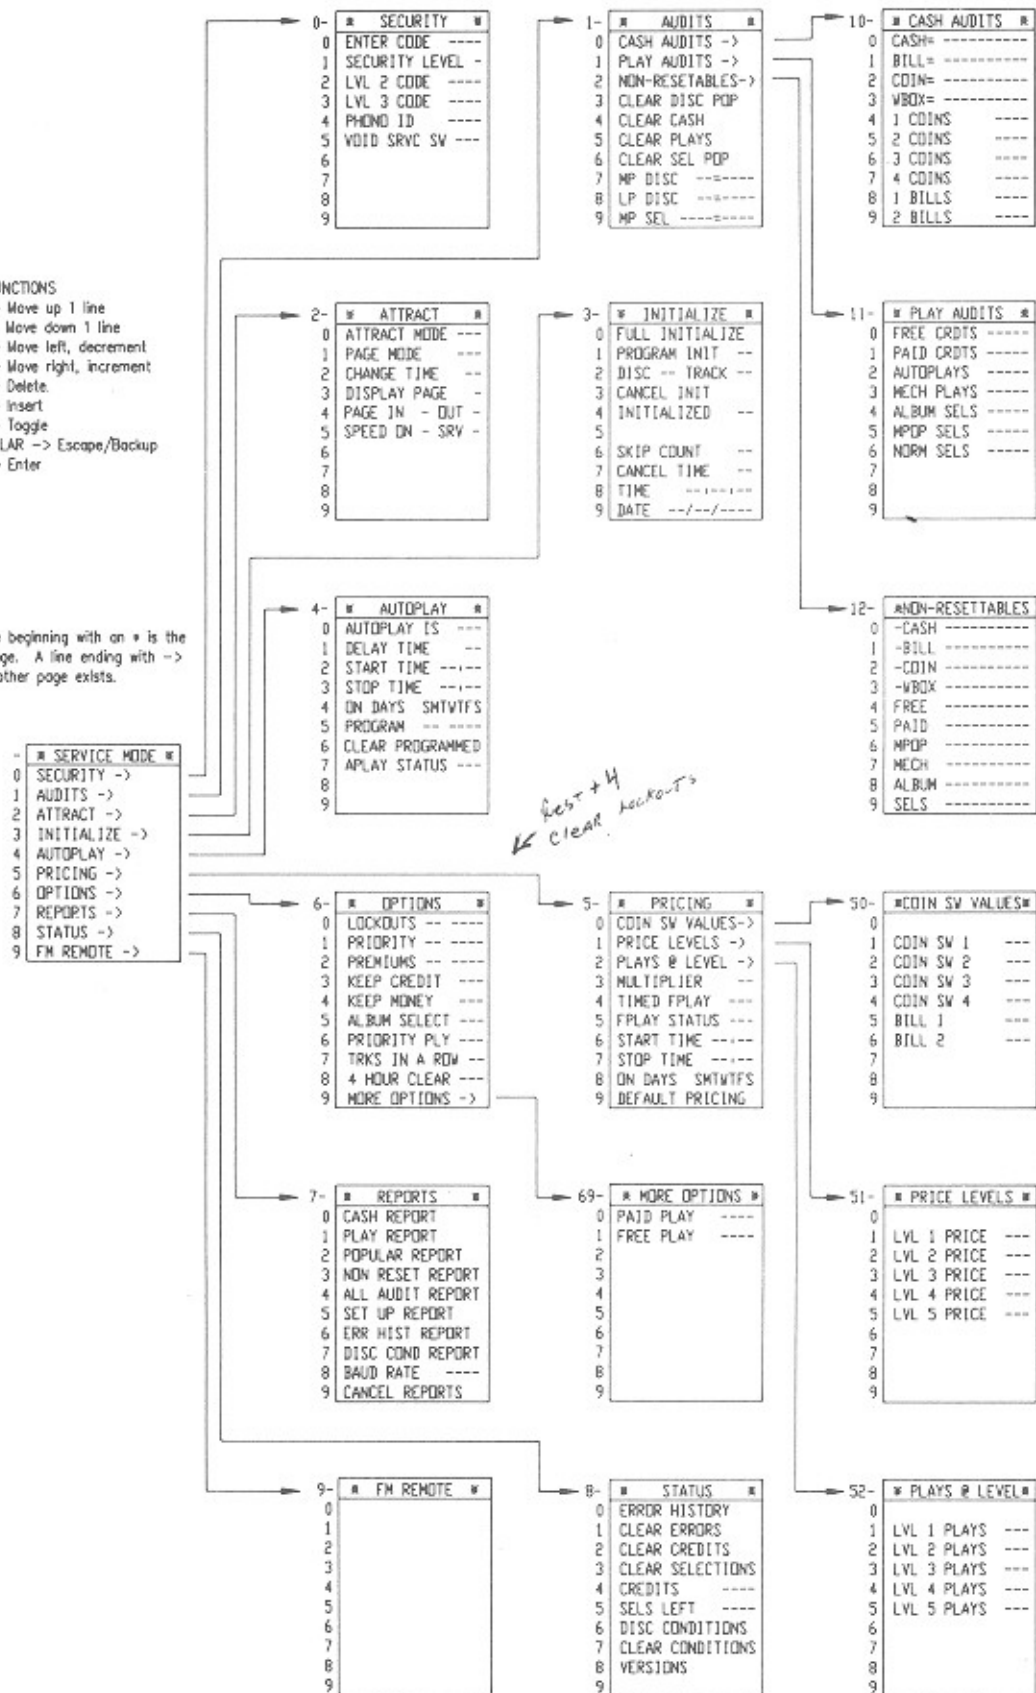

Figure 2-7. Service Mode Map
When you have found the option that you want, press the POPULAR button. If the option that you have selected requires that you enter a value, press the appropriate digits on the selector keyboard and then press POPULAR to complete the transaction. If you make a mistake, press and hold the RESET button press "0", then press "1", then re-enter your selection. If you have not already reviewed the *CD-100 Service Mode Map, figure 2-7*, take a minute to read it.
The SERVICE MODE menu (referred to as the "MAIN menu") is the starting point for all service, pricing, and programming functions. This menu contains the general title for each submenu. Some of the submenus contain commands only. Other submenus contain both commands and further submenu names. Refer to *figure 2-7, the CD-100 Service Mode Map*, for an illustration of the following menu descriptions:
Menus can only be used while the phonograph is in the SERVICE mode. When the phonograph is placed into the SERVICE mode, the message * SERVICE MODE * appears on the digital display (see *figure 1-1* if you are not familiar with the keyboard or display). This message forms the top of the main menu as shown in *figure 2-7*.
CD-100 Commands are formed by combining the numbers that appear on the left side of the menus that appear in *figure 2-7*. To construct and use CD-100 commands, you need to refer to *figure 2-7* or *table 2-2*.
As An Example: You want to view the number of cycles that the CD mechanism has made. Using *figure 2-7*, you determine that you need to select AUDITS (1), on the main menu; NON-RESETTABLES (2), on the AUDIT menu; and MECH (7), on the NON-RESETTABLES menu. Use the digits to form a numeric command, which is 027. Type 027 and The number of mechanism cycles is displayed.